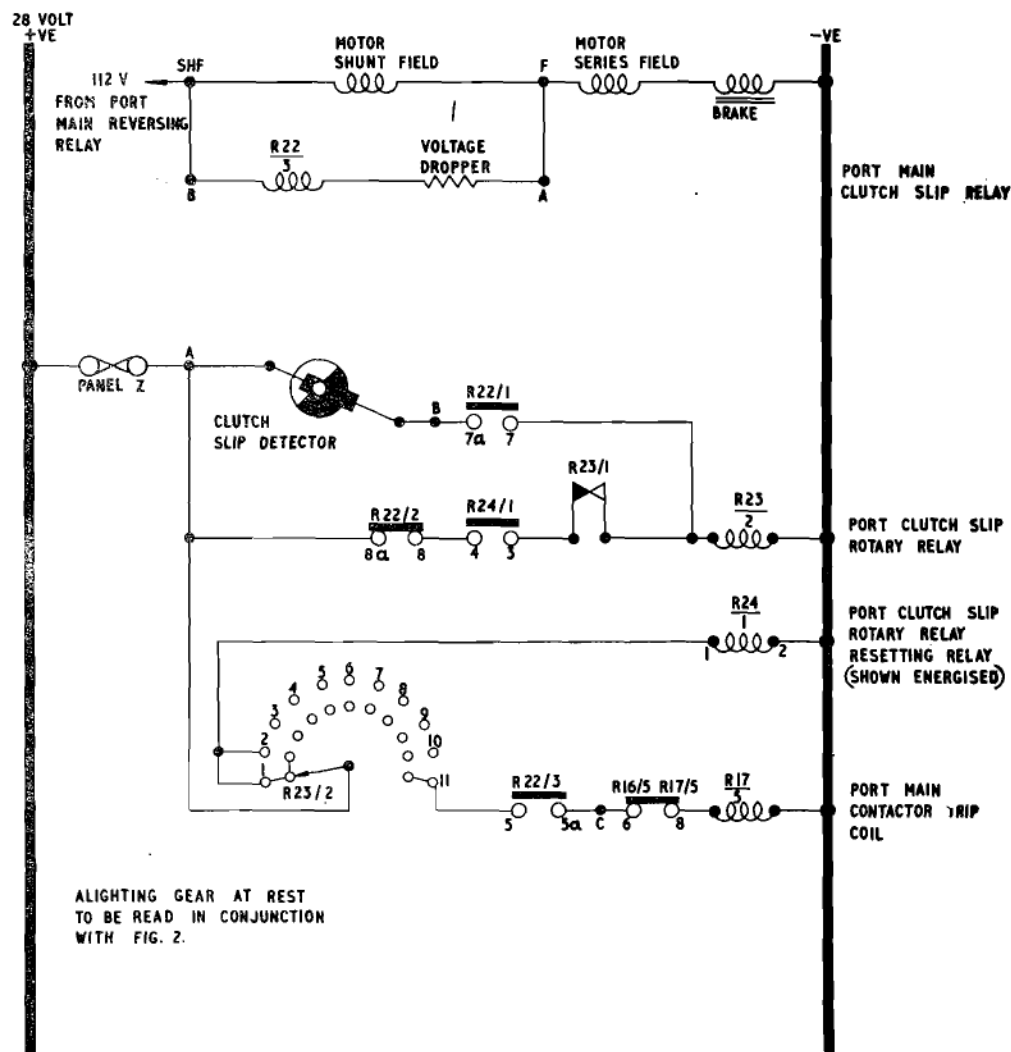

Fig. 4. Clutch slip protection (pre-mod. 2017)
**Clutch slip** (fig. 4 - 5)
Pre-Mod. 2017 (fig. 4)
*When no undercarriage selection is made (fig. 4 or 5)*
**32B.** At position 3, the resetting relay R24 will be de-energized and the supply from panel Z via R22/2 will be connected by contact R24/1 through the interrupter contacts R23/1 to the rotary relay coil R23. Since the clutch slip relay R22 is un-energized, due to the undercarriage not being operated, the rotary relay will continue to notch round its contact R23/2 until position 1 is again reached and R24 re-energized; the undercarriage main contactor R17 will not be tripped when the contact passes position 11 as the clutch slip relay contact R22/3 (Fig. 4) or R22/4 (Fig. 5) will be open. ▶